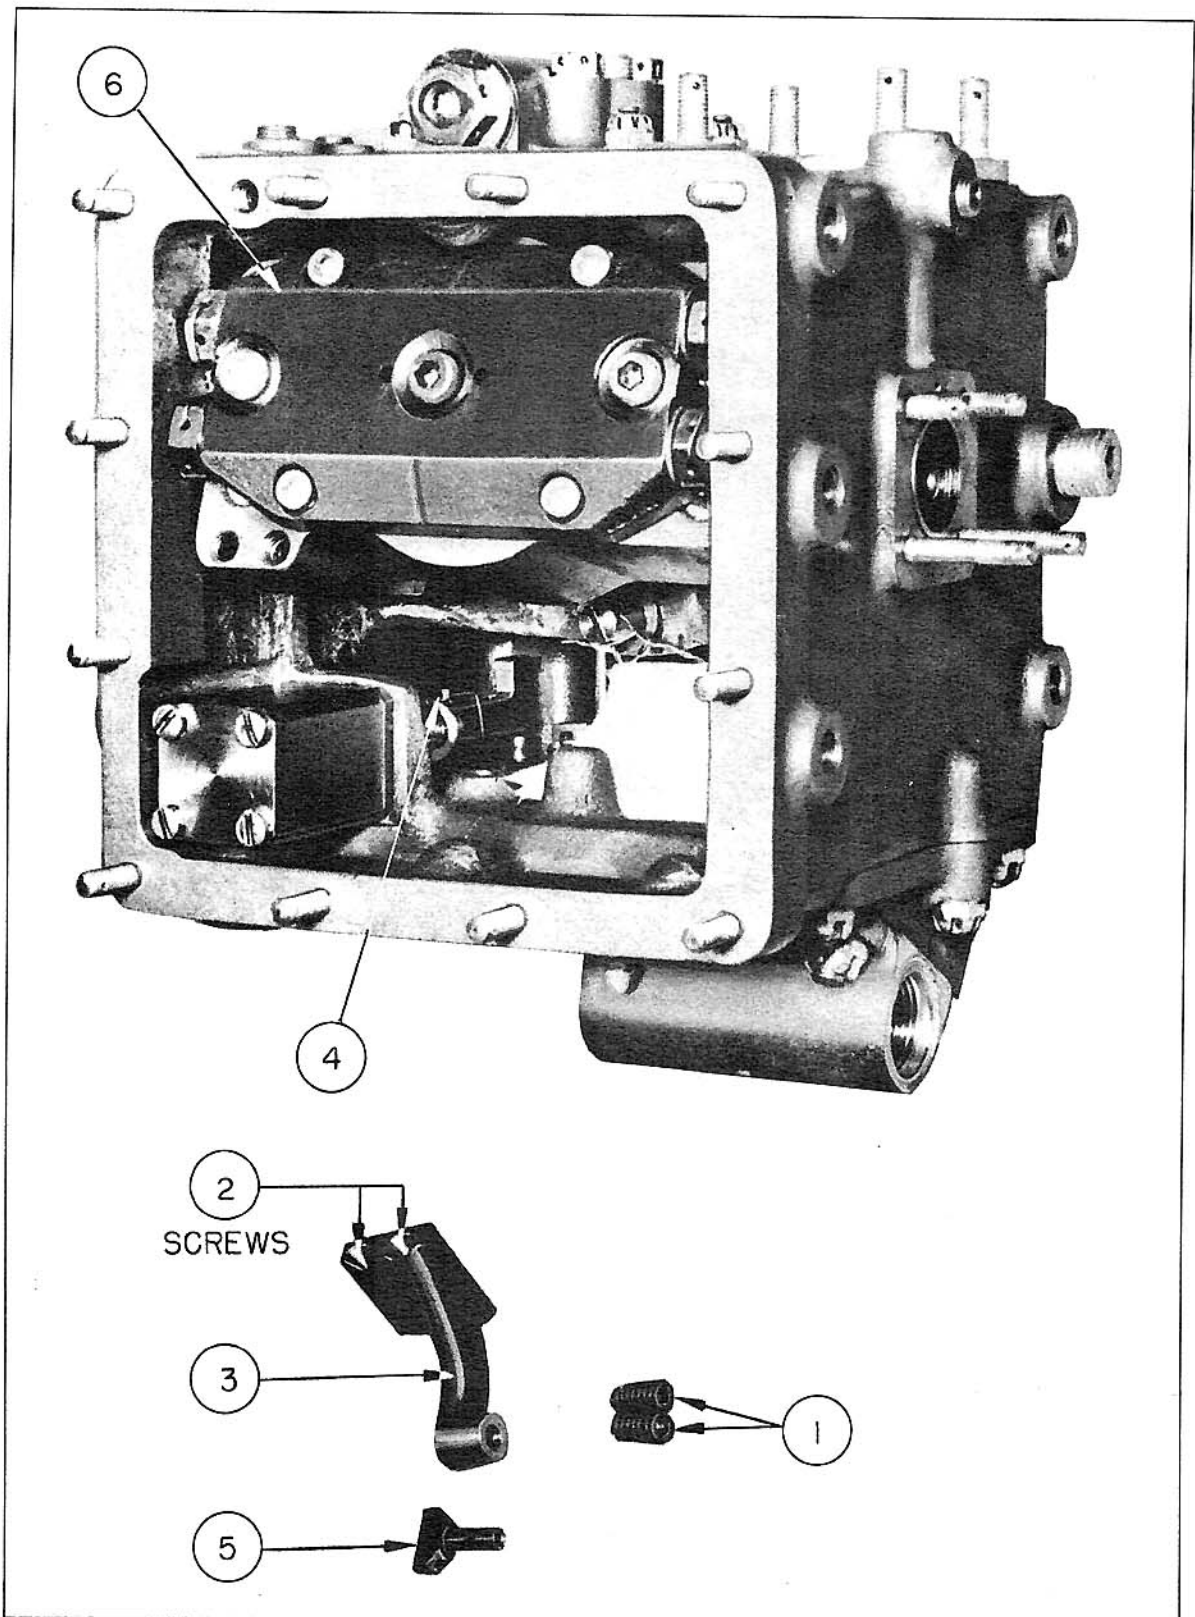

FIGURE 23
3. Yoke Control Arm (Fig. 23)
4. Yoke Control Arm (See Figure 23.) - a. Remove the yoke attaching screws (1) and loosen the other two set screws (2) (in the same holes) sufficiently for the yoke control arm (3) to be released from the yoke (6). Pull out the pin (4) on the lower end of the yoke and lift the arm out of the housing.
10. Yoke Control Arm (Fig. 23)
11. Yoke Control Arm (See Figure 23.) - a. Insert the yoke control arm Tee (5) into its slot on the yoke control arm (3) . Place the yoke control arm into its housing seat, and at the same time, slide the yoke control arm Tee into the control cylinder and follow valve slot. Screw down the 2 set screws (2) , tightening the yoke control arm to the yoke, then lock the set screws in by means of the two set screws (1)